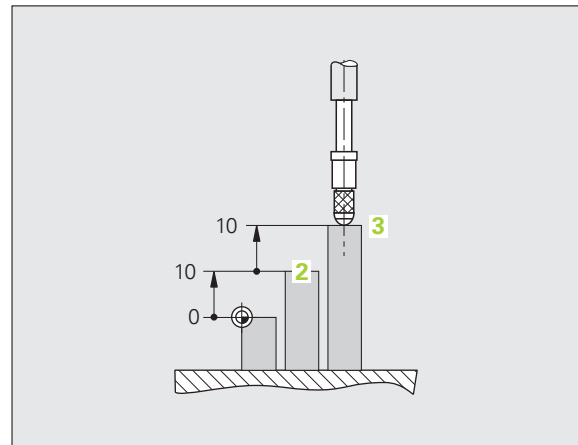

Fig. I.6 Position **3**: definition through incremental coordinates
**Example:** Incremental coordinate of position **3** referenced to position **2** see Fig. I.6.